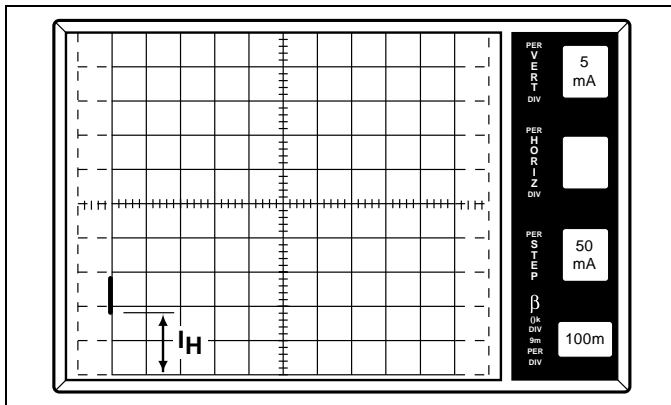

Figure 19.11  $I_H$  (Forward) is 8.2mA
- Decrease *Variable Collector Supply Voltage* to the point where the line on the CRT changes to a dot. The position of the beginning point of the line, just before the line becomes a dot, represents the holding current value (See Figure 19.11.)